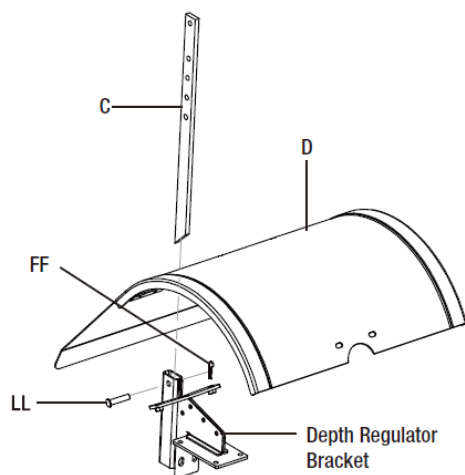

Figure 1-1
- insert the depth regulator (C) through the protective shields (D) opening into the top of the depth regulator bracket with handle facing to the rear.
- Insert depth regulator clevis pin (LL) through the depth regulator bracket. Then insert the cotter pin (FF) to secure. The top hole of the depth regulator tines should clear the ground. See Figure 1-1.